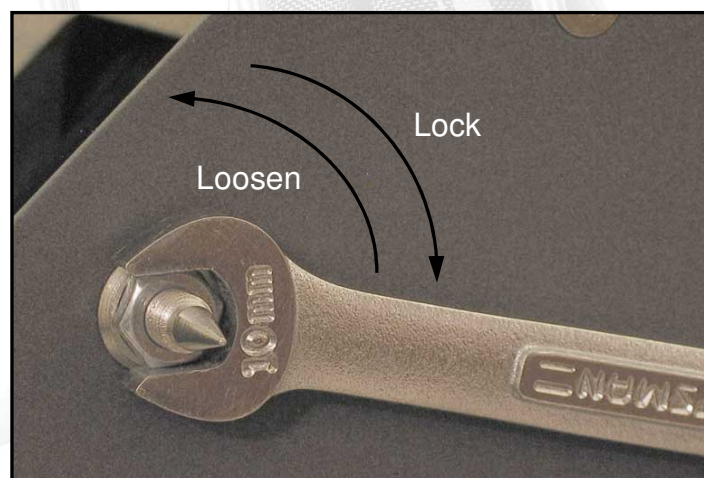

Figure 5. Adjusting a Spike Nut
The base of the Unicorn Mk II is fitted with four spikes. These are double ended as shown in figure 4 and are locked in position with a nut. You will need an open ended 10mm spanner to adjust them - figure 5.
1. If the loudspeaker can be rocked in the 10 o'clock to 4 o'clock direction, lean the loudspeaker to the left and screw out the right hand front spike by the amount of movement you saw at the base of the cabinet. It is best to have an assistant to help you hold the loudspeaker. Stand the loudspeaker back up and repeat the process until the loudspeaker is sitting squarely on its spikes. Lean the loudspeaker to the left again and tighten the nut on the right front spike (figure 5), taking care not to change the spike's setting.
2. If the loudspeaker can be rocked in the 2 o'clock to 8 o'clock direction, lean the loudspeaker to the left and screw in the right hand front spike by the amount of movement you saw at the base of the cabinet. It is best to have an assistant to help you hold the loudspeaker. Stand the loudspeaker back up and repeat the process until the loudspeaker is sitting squarely on its spikes. Lean the loudspeaker to the left again and tighten the nut on the right front spike (figure 5), taking care not to change the spike's setting.